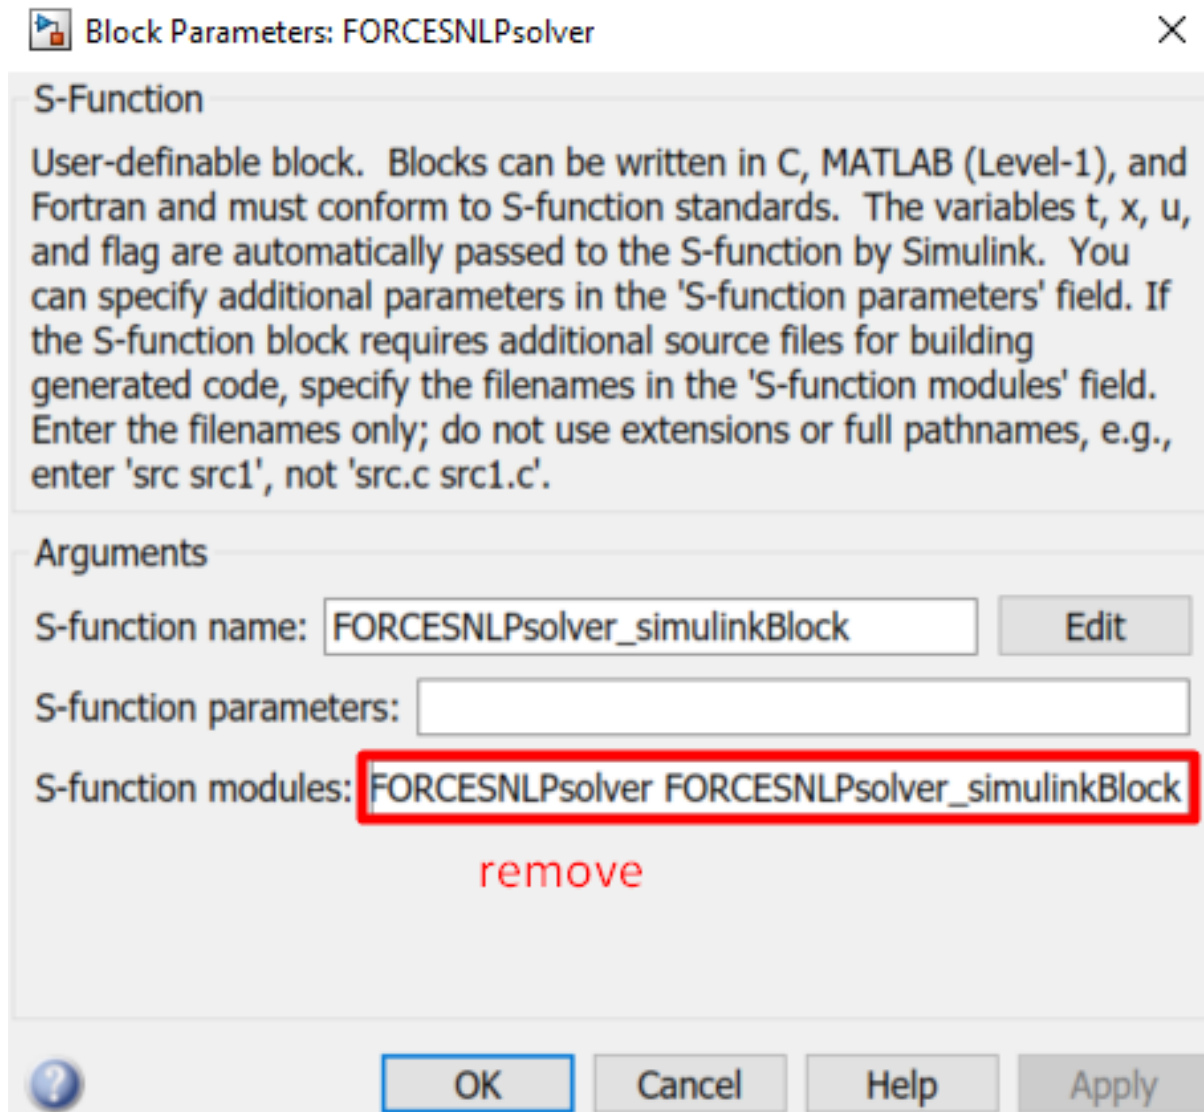

Figure 13.73: Remove the default data from the S-function module.
14. (Figure 13.73) Remove “FORCESNLPsolver” and “FORCESNLPsolver_simulinkBlock” from the S-function module.